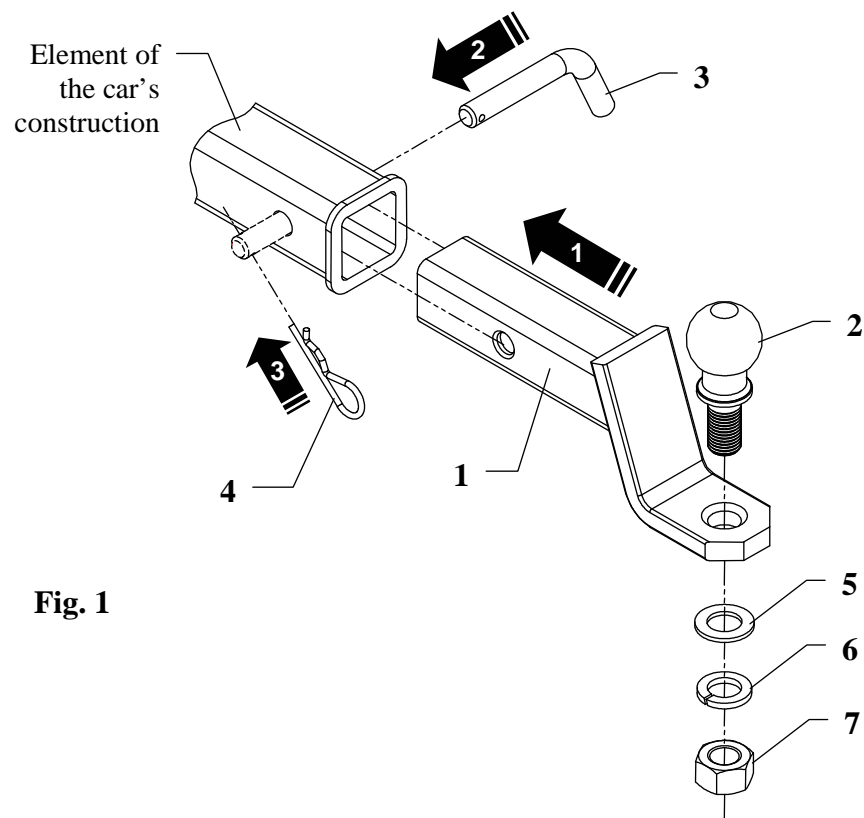

Fig. 1
3. Fix tow-ball (pos. 2) as shown on figure 1 using supplied washers (pos. 5 and 6) and nut M22 (pos. 7).